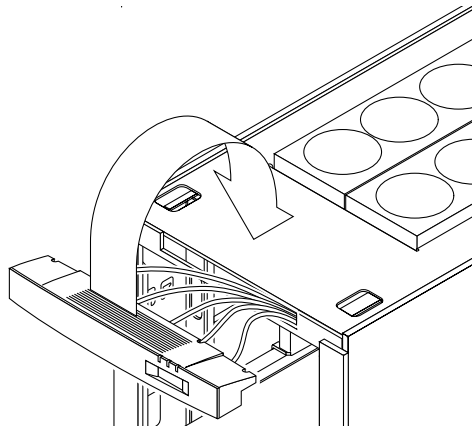

FIGURE 5-3 FrameManager Removal—Step 2
2. Slide the assembly forward and carefully flip it onto the top of the Sun Fire cabinet to access the cable connector on the rear of the assembly (FIGURE 5-3).